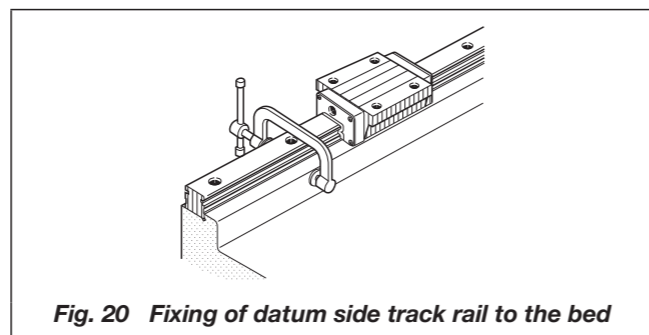

Fig. 20 Fixing of datum side track rail to the bed
- Firmly push the reference mounting surface of Linear Way I track rail to the mating reference mounting surface of the bed using a small vise or clamp. Tighten the track rail mounting bolt at the position where the vise or clamp is applied. Fix the track rail by progressively moving the position of the vise or clamp from one rail end to the other. (See Fig. 20.)